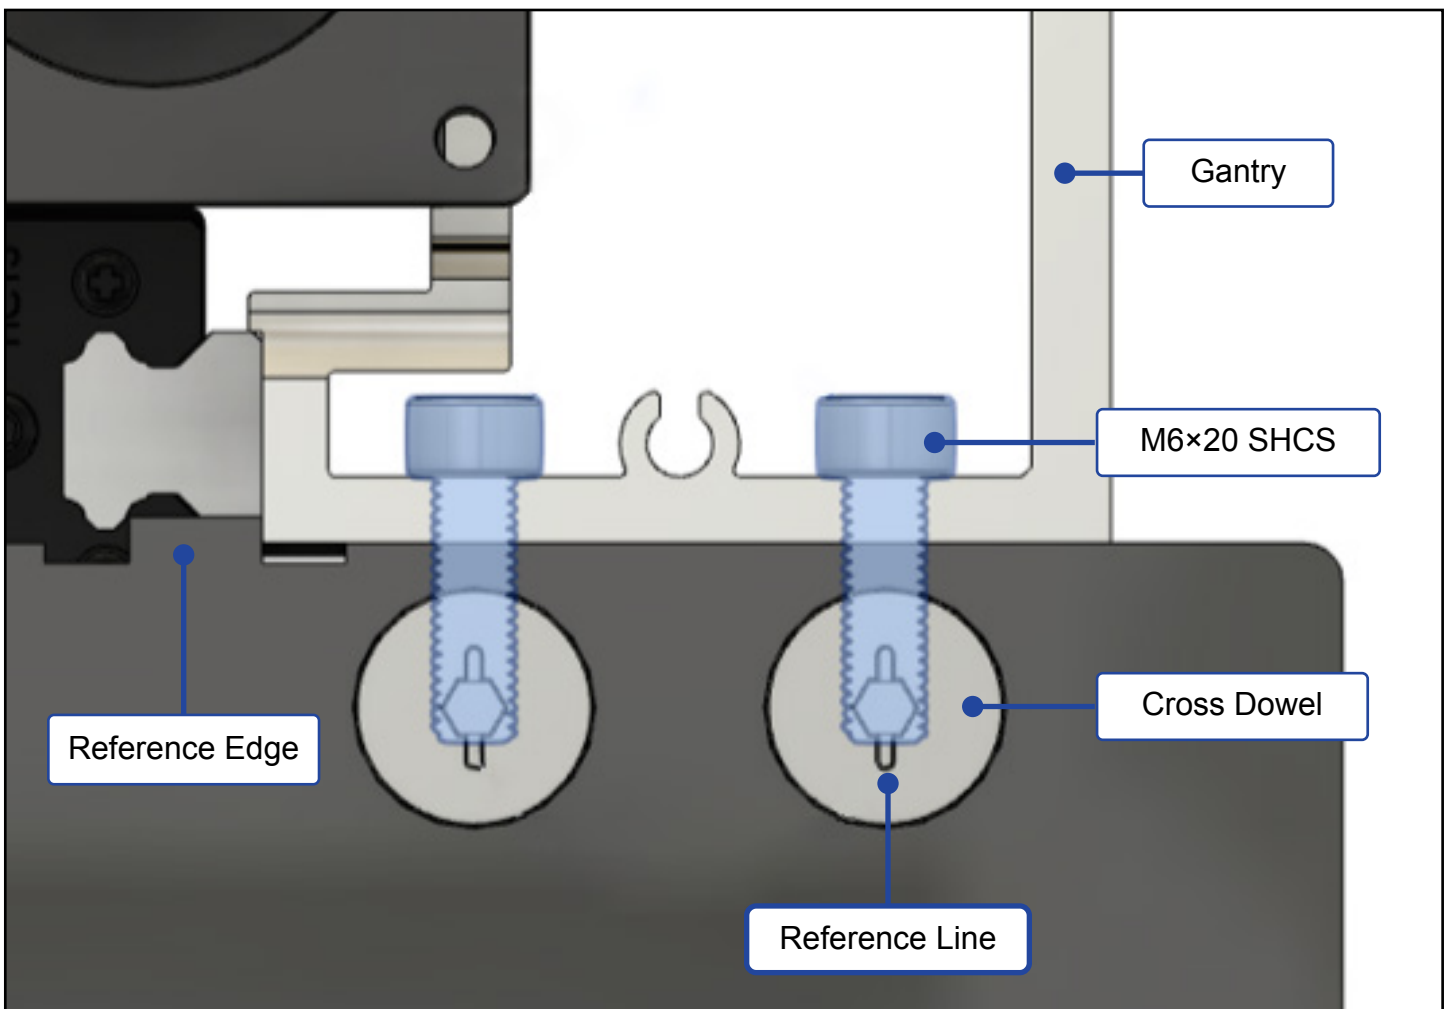

Figure 1-7
4. Orient the cross dowels so that the reference line on the face of each is vertical. See **Fig. 1-7**.
5. Use a 5mm hex key to loosely re-insert the two (2) M6×20mm SHCS to attach the gantry to the Y-Right assembly. See **Fig. 1-7**.
7. Orient the cross dowels so that the reference line on the face of each is vertical. See **Fig. 1-7**.
8. Use a 5mm hex key to loosely re-insert the two (2) M6×20mm SHCS to attach the gantry.
10. Keep pressure on the gantry to keep it engaged with the reference edge on each carriage as you fully tighten all four (4) M6×20mm SHCS.